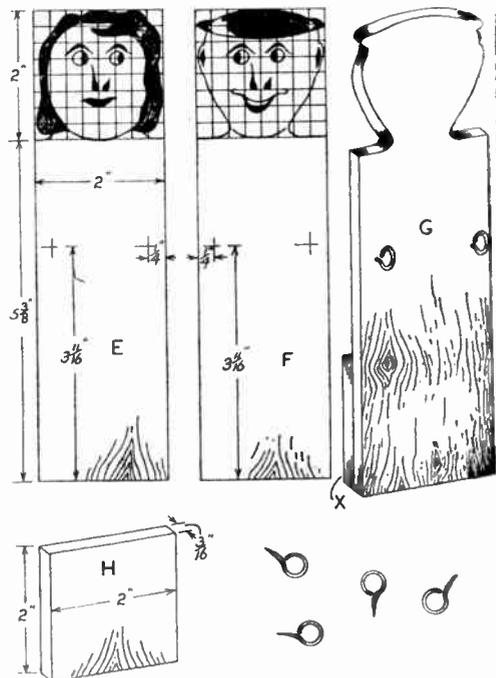

Fig. 4—The faces for the alley
Before fixing the parts so far cut, it is best to get along with the faces for the windows and details are given in Fig. 4. First cut two pieces of $\frac{3}{8}$ in. plywood to size $7\frac{3}{8}$ ins. long by 2ins. wide, and divide the 2in. square portion at the top into $\frac{1}{2}$ in. squares as indicated in (E) and (F) Fig. 4. It is now a simple matter to draw and cut the shape of the heads. The eyes, nose, and mouth, should be marked in coloured enamel on each face, which gives a very nice effect when the game is in action.
The two figures pivot on a length of $\frac{1}{4}$ in. dowel rod, so four small eye hooks as indicated are required through which the dowel will pass with ease. Screw the hooks into the back of the figures as shown in view (G) Fig. 4, the positions being clearly marked in (E) and (F).
Now cut two pieces of plywood 2ins. by 2ins. as indicated in (H) Fig. 4, and glue them on the front of the figures